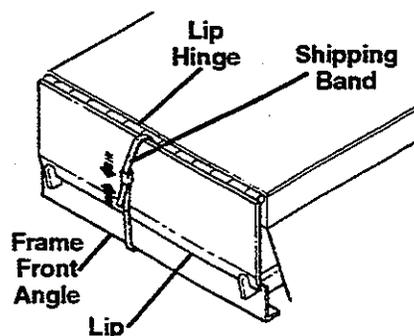

Figure 12
11. Place a shipping band through the lip hinge and around the front frame angle of the leveler. Secure the banding. The banding is to secure the frame angle to the platform when the leveler is removed from the pit. See Figure 12 for reference.